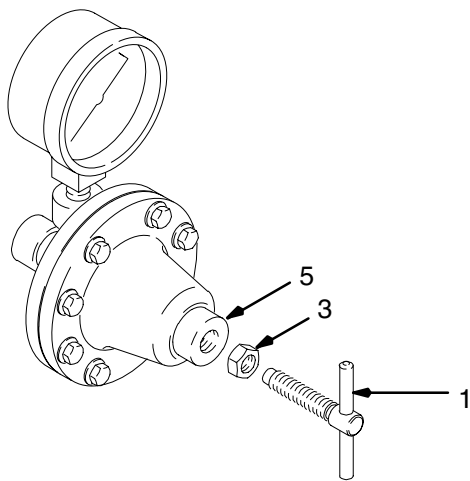

Fig. 3 02729
1. Close the regulator: turn the adjustment handle (1) counterclockwise to relieve the spring tension. See Fig. 3.
3. Turn the adjustment handle (1) *clockwise* to increase fluid pressure. See Fig. 3. Adjust for the desired spray pattern. *Before reducing the regulator pressure, partially relieve pressure in the gun hose to ensure the correct gauge reading. Tighten the jam nut (3) to the regulator cap (5) to ensure the proper pressure setting.*
- b. Turn the adjustment handle (1) clockwise to open the regulator valve to the desired flushing outlet pressure and flow. See Fig. 3.
3. Turn the adjustment handle (1) counterclockwise until the spring force is relieved (Fig. 3).